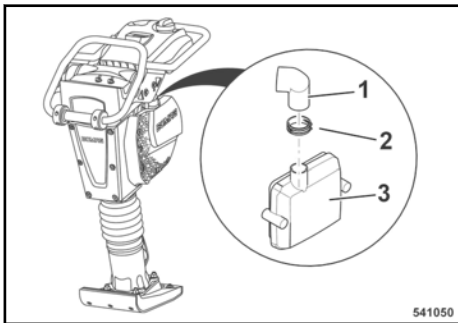

Fig. 46
Loosen hose clamp (2) ↪ Fig. 46 and pull the air supply hose (1) off the air filter housing (3).